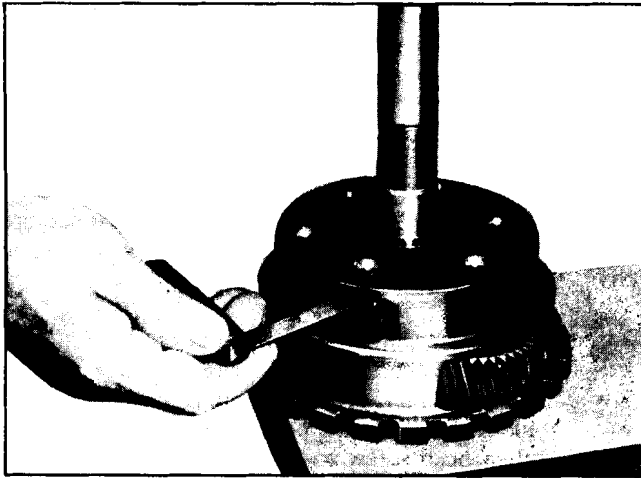

Fig. 7F-71 Checking Pinion Gear End Clearance
3. Check end clearance of pinion gears; should be .006" to .030" (Fig. 7F-71).